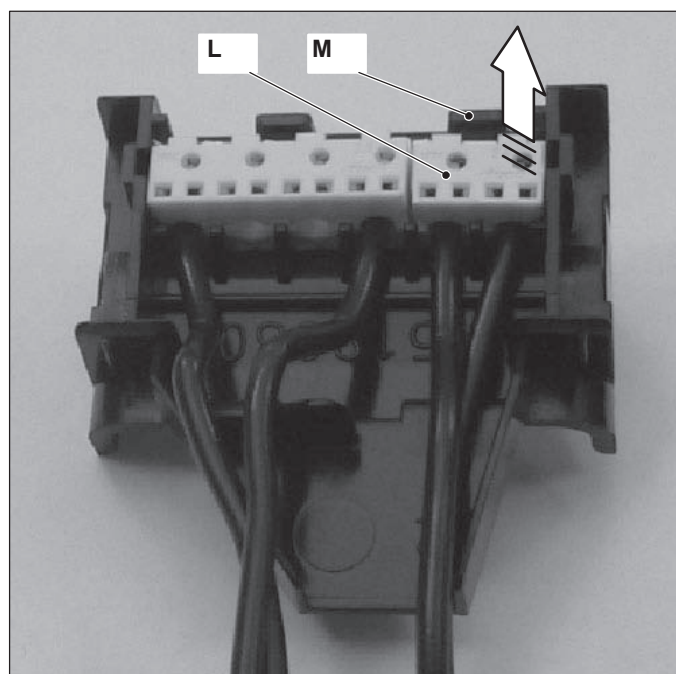

Figure 7.5
- 4 Remove the capacitor connection block L freeing it from the hook M and pulling it as indicated by the arrow (Figure 7.5).